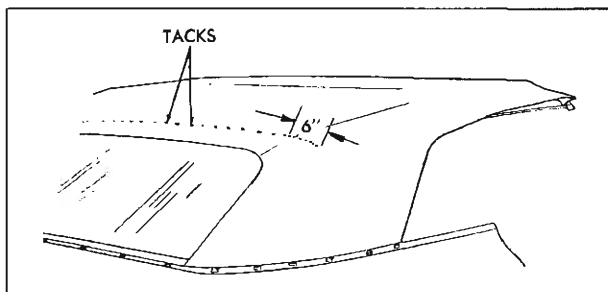

Fig. 21-53 Tacks Outboard of Seams
**NOTE:** Tacks must be installed along a straight line in center of rear bow. (Fig. 21-53). Tacks outboard of deck seams should be restricted to distance not to exceed six inches, which is length wire-on binding extends past seam (Fi. 21-53).